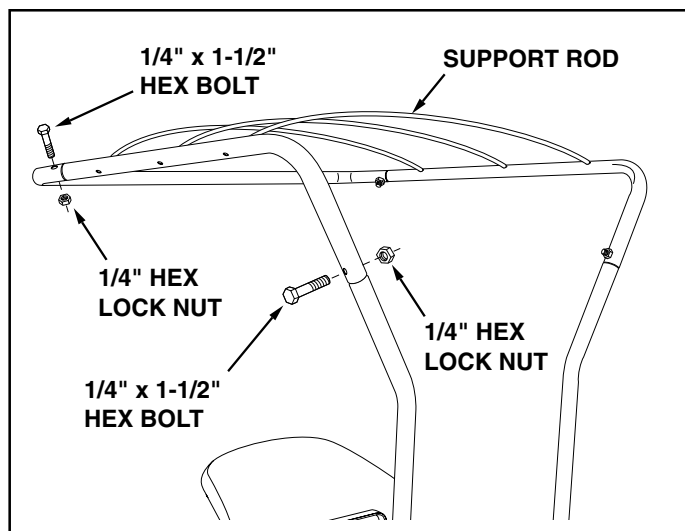

FIGURE 6
- Assemble the top tubes to the upright tubes using two 1/4" x 1-1/2" hex bolts (from outside) and two 1/4" hex lock nuts (inside). **Do not tighten yet.** See figure 6.
- Fit the front U-tube onto the top tubes. Fasten the tubes together using two 1/4" x 1-1/2" hex bolts (on outside) and two 1/4" hex lock nuts (on inside). **Tighten all** loose bolts. See figure 6.
- Fit the three support rods into the holes in the top tubes, with the rods arching upward. **Do not** over bend the rods when installing. See figure 6.